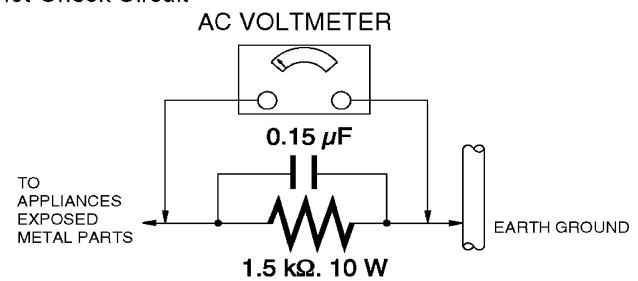

Figure 1
1.3. Leakage Current Hot Check (See Figure 1)
2. Connect a $1.5k\Omega$, 10 W resistor, in parallel with a $0.15\mu F$ capacitor, between each exposed metallic part on the set and a good earth ground, as shown in Figure 1.